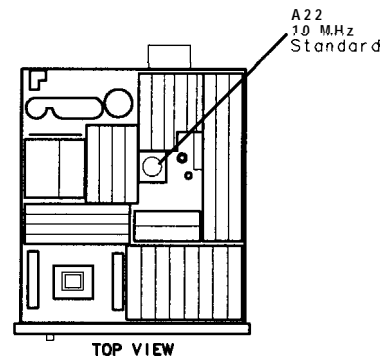

Figure 3-53. Location of 10 MHz Standard Adjustments
14. Remove the two adjustment cover screws from the A22 10 MHz Frequency Standard. Refer to Figure 3-53 for the location of the A22 10 MHz Frequency Standard.